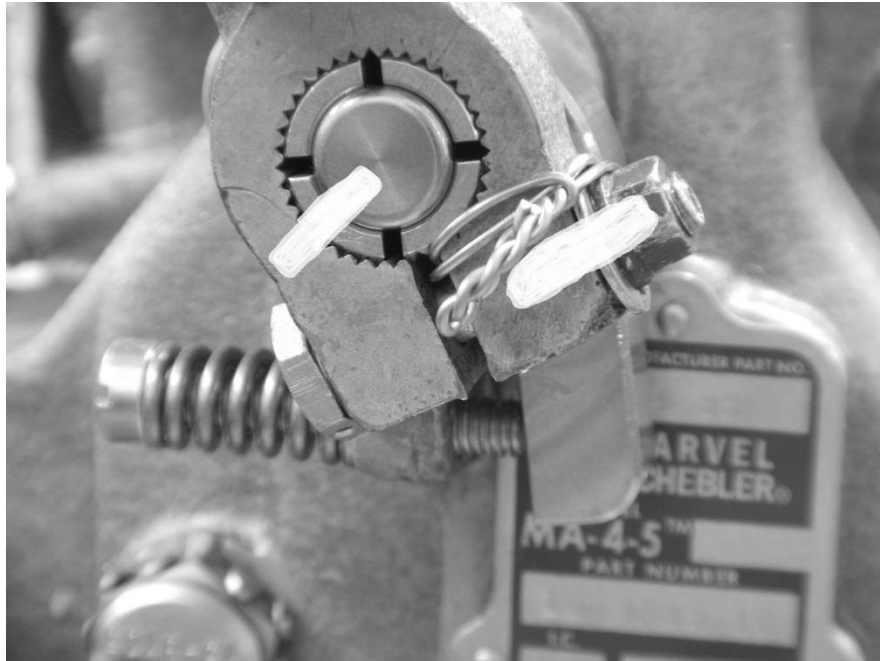

Figure 5-11f: Application of Anti-Sabotage Lacquer
- Apply Anti-Sabotage Lacquer (Torque-Seal or equivalent) between the Throttle Arm and the Serrated Shaft, as well as between the Self-Locking Nut and the Throttle Arm (areas shown in white in Figure 5-11f).